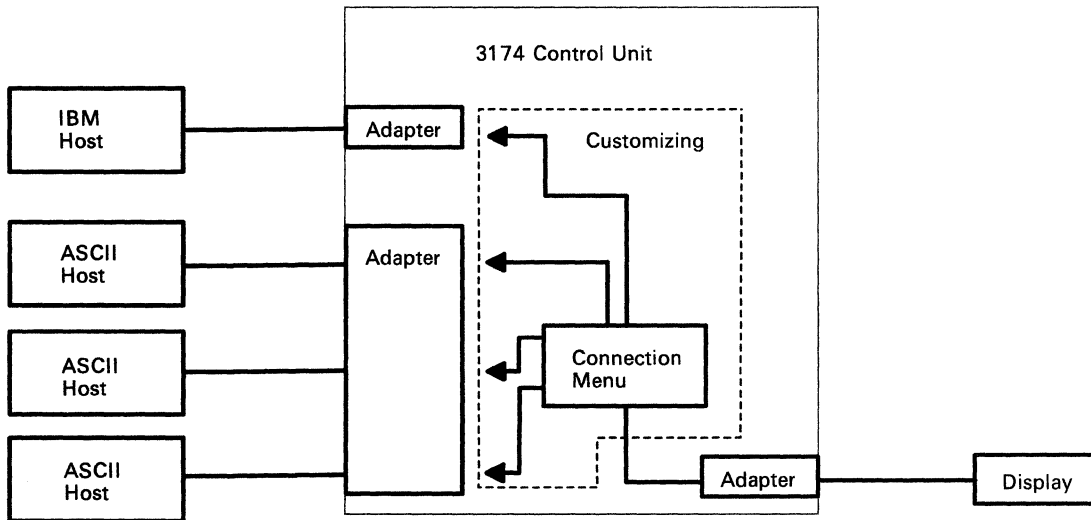

Figure B-14. Connection Menu Option 2
2. The terminal user may be presented the Connection Menu and be allowed to select any one of the hosts from the list. See Figure B-14.